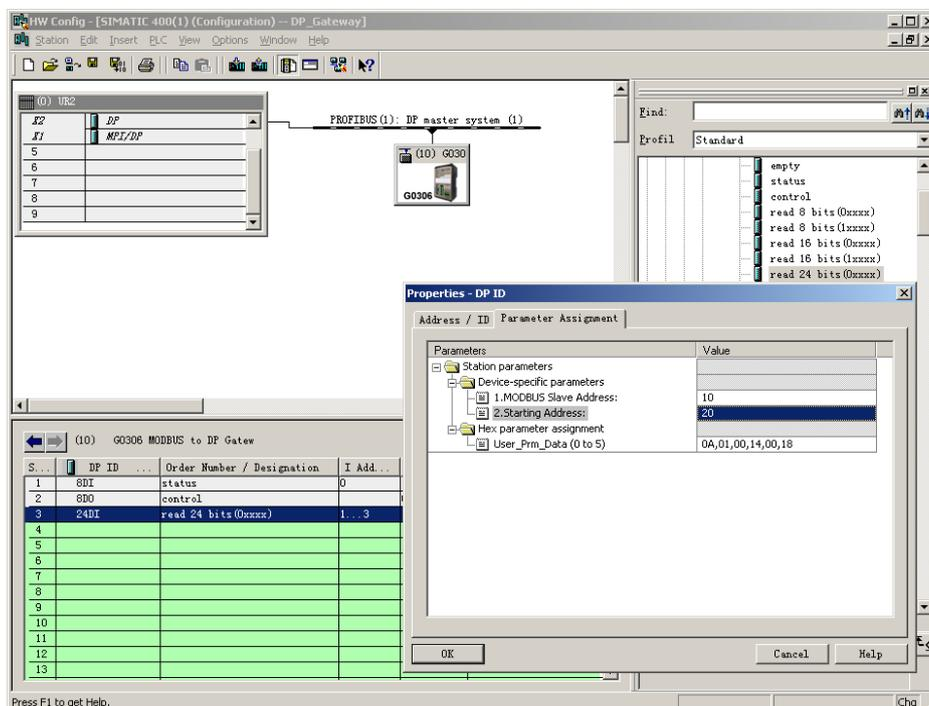

Figure 17 Configuration of“read 24 bits(0xxxx)” Module User Parameter
**b) Configuration of “read 24 bits(0xxxx)” module user arameter, shown as Figure 17:**
“1.Modbus Slave Address:”⇒ type MODBUS slave address 10, as shown in Figure 17
“2.Starting Address:”⇒ type will-read coil 0xxxx starting address 00021, set the address as 20⇒“OK”, shown as Figure 17.